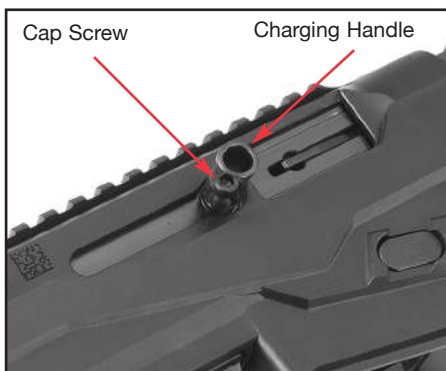

Figure 18.
2. A 5/32" hex wrench must then be used to loosen the cap screw within the charging handle (see Figure 18). Once loosened and removed, the charging handle assembly (comprised of the charging handle and cap screw) can be installed on the opposite side of the pistol.